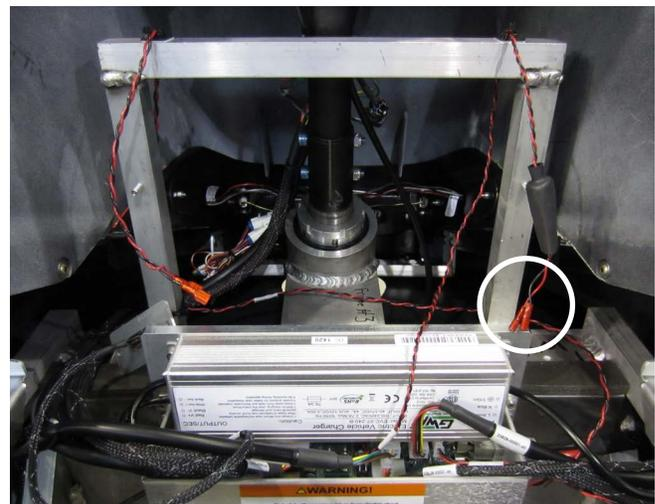

Figure 180: KeyLock Harness Routing
3. Route the harness through the frame and up to the top right of the frame. See Figure 180.